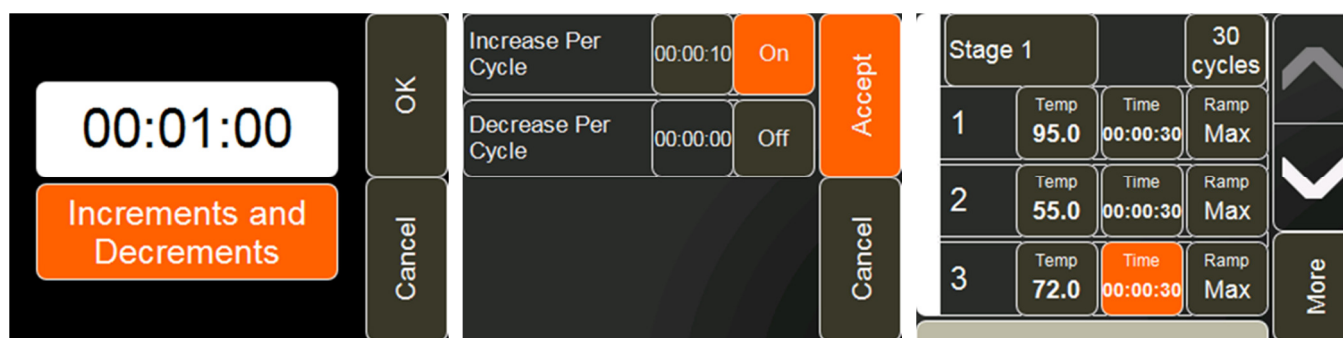

Fig. 1: Increments and Decrements. Fig. 2: Turn on Increase Per Cycle. Fig. 3: Modified step shown in orange.
2. Touch the step **Time** button. This will open the time screen (Fig. 1).